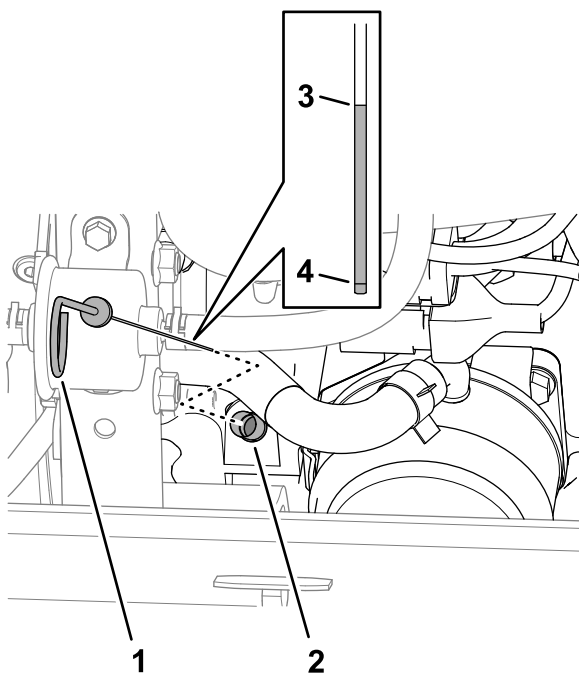

Figure 123
3. Remove the dipstick from the dipstick tube (Figure 123) and wipe the dipstick with a clean rag.